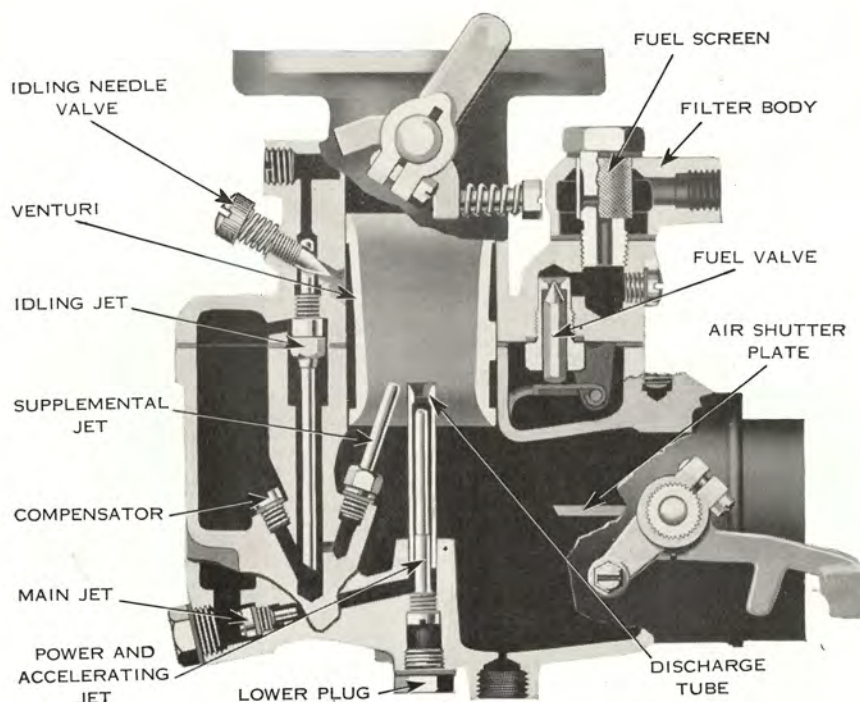

Figure 8
**NORMAL RUNNING:** Refer to Figure 8. On part throttle operation (between idling and full power) the fuel is measured by the main and compensating